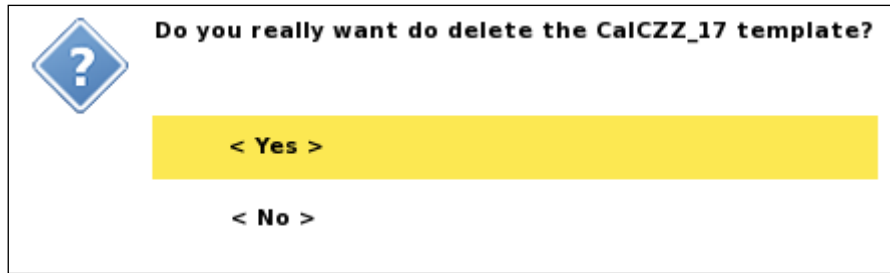

Figure 28 Confirm Template Delete dialog
- **Delete:** A confirmation dialog is shown (Figure 28) and the *Template* will be deleted if the user confirms the deletion